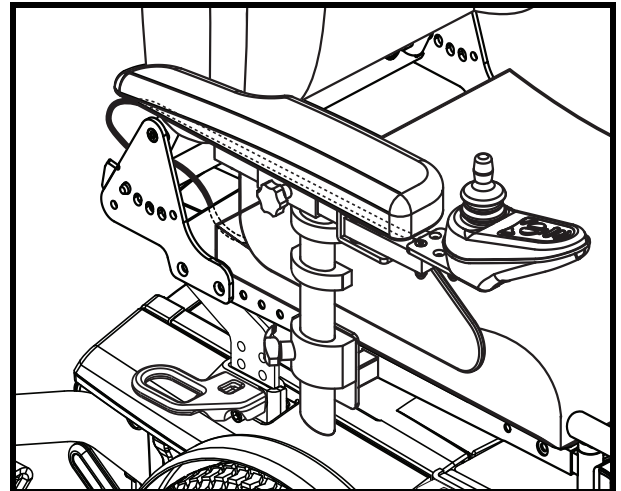

Figure 19. Cable Routing
7. Route the controller harness to the front of the power base and reconnect the controller. **See figure 19.**